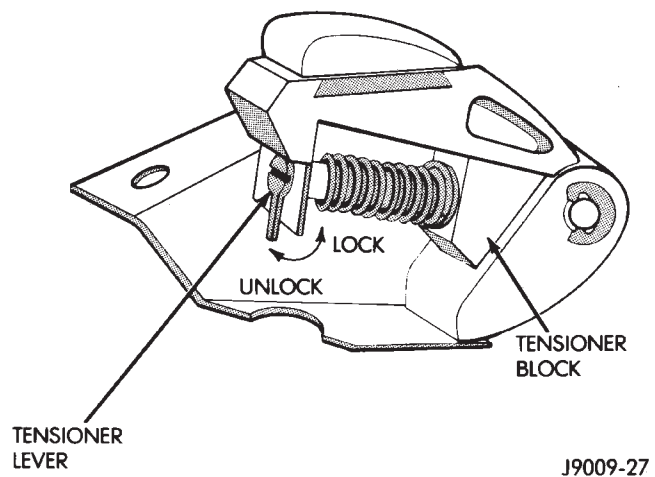

Fig. 8 Loading Timing Chain Tensioner
- (1) Turn the tensioner lever to the unlocked (down) position (Fig. 8).
- (2) Pull the tensioner block toward the tensioner lever to compress the spring. Hold the block and turn the tensioner lever to the lock position (Fig. 8).
(6) Turn the chain tensioner lever to the unlocked (down) position (Fig. 8).